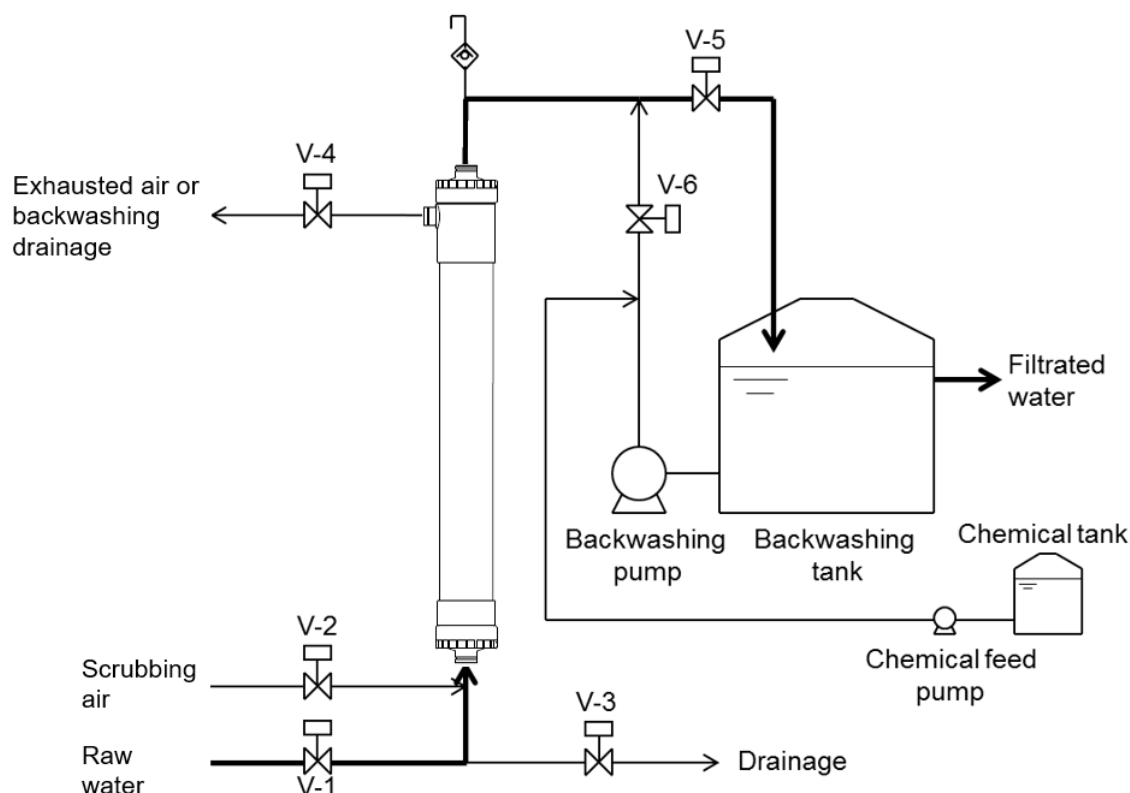

Fig. 4. Typical example of membrane pipe connection
5. Connect the piping to each connection point of the module with Housing type joints (HFUG-2020AN) (see Fig. 4). The maximum fastening power of the Housing type joints should not exceed 40 Nm. When you tighten or loosen the Housing type joints, make certain to maintain sufficient space prior to the work and be careful not to injure one's fingers or other body parts.
- (1) Check that all piping is connected appropriately and flushed out prior to the operation. Fig. 4 shows a typical example of membrane pipe connection.